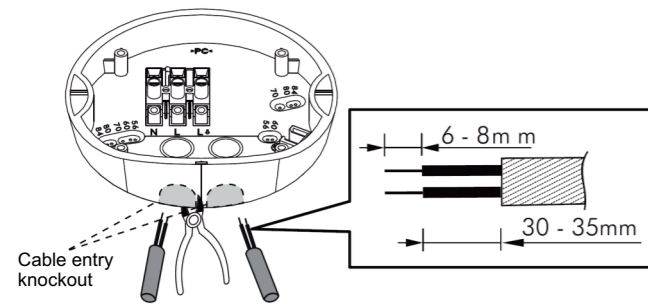

FIG. 10
3.4.1.4 The cables can be fed through either from side or bottom sides. To feed AC power cables through the side entry holes, please use the cutting pliers to break the cable entry knockouts on the side of junction box, then insert cables into junction box and feed through it. Strip off 6 - 8mm of cable sheathing for wiring (See FIG.10).